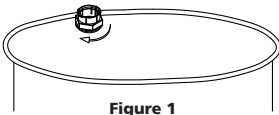

Figure 1
1. Please see figure 1. Install the bung adaptor (ref # 29) into the barrel or drum from which liquid is to be pumped. While installing the bung adaptor; ensure that the gasket (ref # 28) is in proper position. Do not over tighten the bung adaptor.